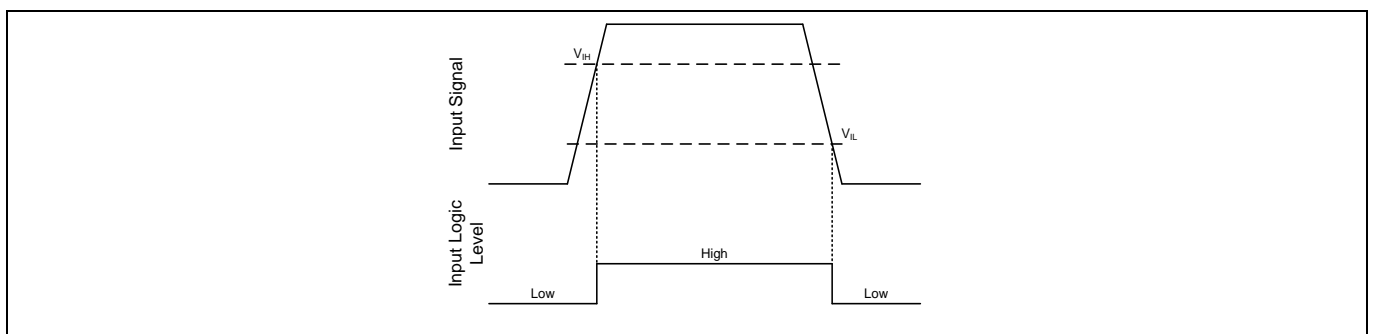

Figure 9 HIN & LIN input thresholds
The input pins are based on a TTL and CMOS compatible input-threshold logic that is independent of the  $V_{CC}$  supply voltage. With typical high threshold ( $V_{IH}$ ) of 2.1 V and typical low threshold ( $V_{IL}$ ) of 0.9 V, along with very little temperature variation as summarized in Figure 9, the input pins are conveniently driven with logic level PWM control signals derived from 3.3 V and 5 V digital power-controller devices. Wider hysteresis (typically 0.9 V) offers enhanced noise immunity compared to traditional TTL logic implementations, where the hysteresis is typically less than 0.5 V. 2ED2106 (4) S06F (J) also features tight control of the input pin threshold voltage levels which eases system design considerations and ensures stable operation across temperature. The 2ED2106 (4) S06F (J) features floating input protection wherein if any of the input pin is left floating, the output of the corresponding stage is held in the low state. This is achieved using pull-down resistors on all the input pins (HIN, LIN) as shown in the block diagram. The 2ED2106 (4) S06F (J) has input pins that are capable of sustaining voltages higher than the bias voltage applied on the  $V_{CC}$  pin of the device.